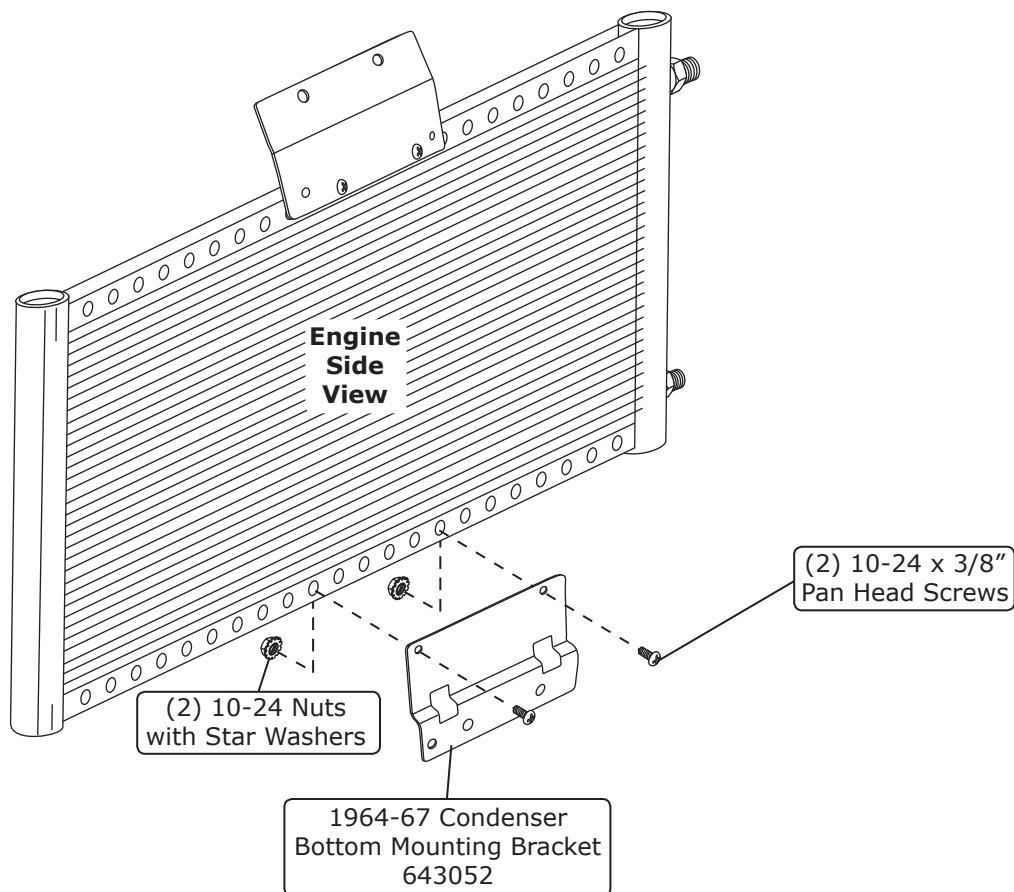

Figure 15
1. Install the bottom mounting bracket onto the condenser using (2) 10-24 x 3/8" pan head screws and (2) 10-24 nuts with star washers as shown in Figure 15, below. **NOTE: The bracket mounts through the 10th & 15th holes from the left side of the condenser.**